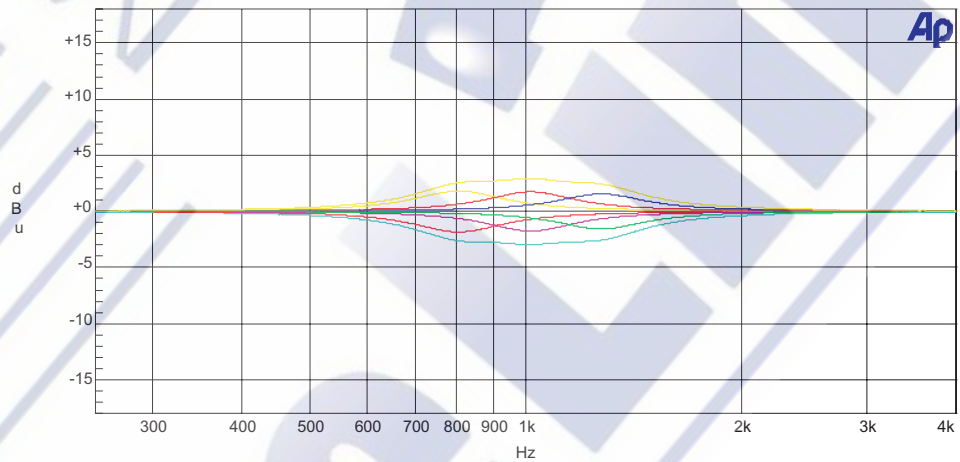
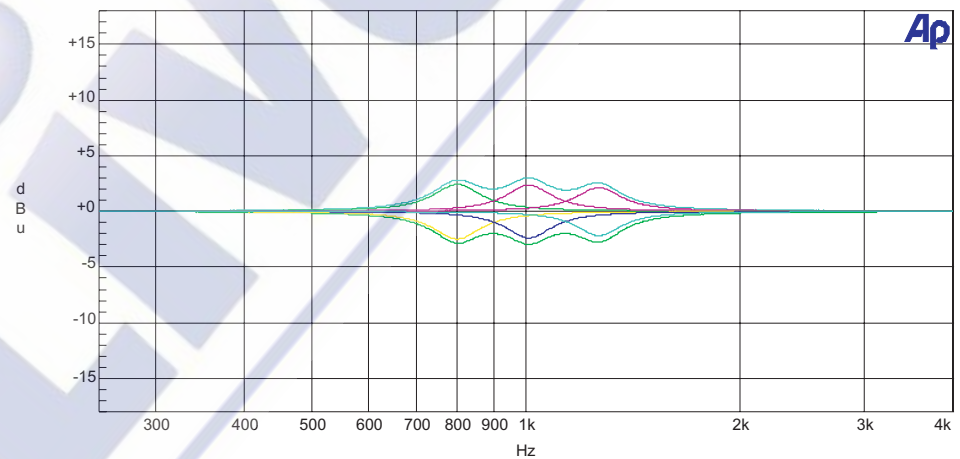

Figure 1 Symmetrical-Q equaliser "wide" mode ±2dB boost and cut
Figure 2 Symmetrical-Q equaliser "narrow" mode ±2dB boost and cut
**Figure 1** and **Figure 2** show the responses of a leading Symmetrical-Q equaliser in both its 'wide' and 'narrow' modes of operation for 2dB of boost and cut, which is typical of the small adjustments made in corrective EQ applications. The 'wide' response gives a very smooth combined response for the three bands shown, however the 'narrow' response shows significant ripple in the combined response which will lead to audible artefacts such as phase distortion.